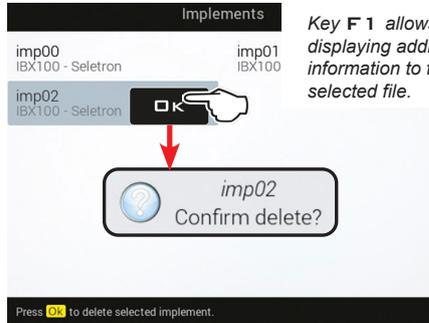

Fig. 296
- Scroll the list of the names present inside memory; select the desired implement (Fig. 296) and press **OK**.